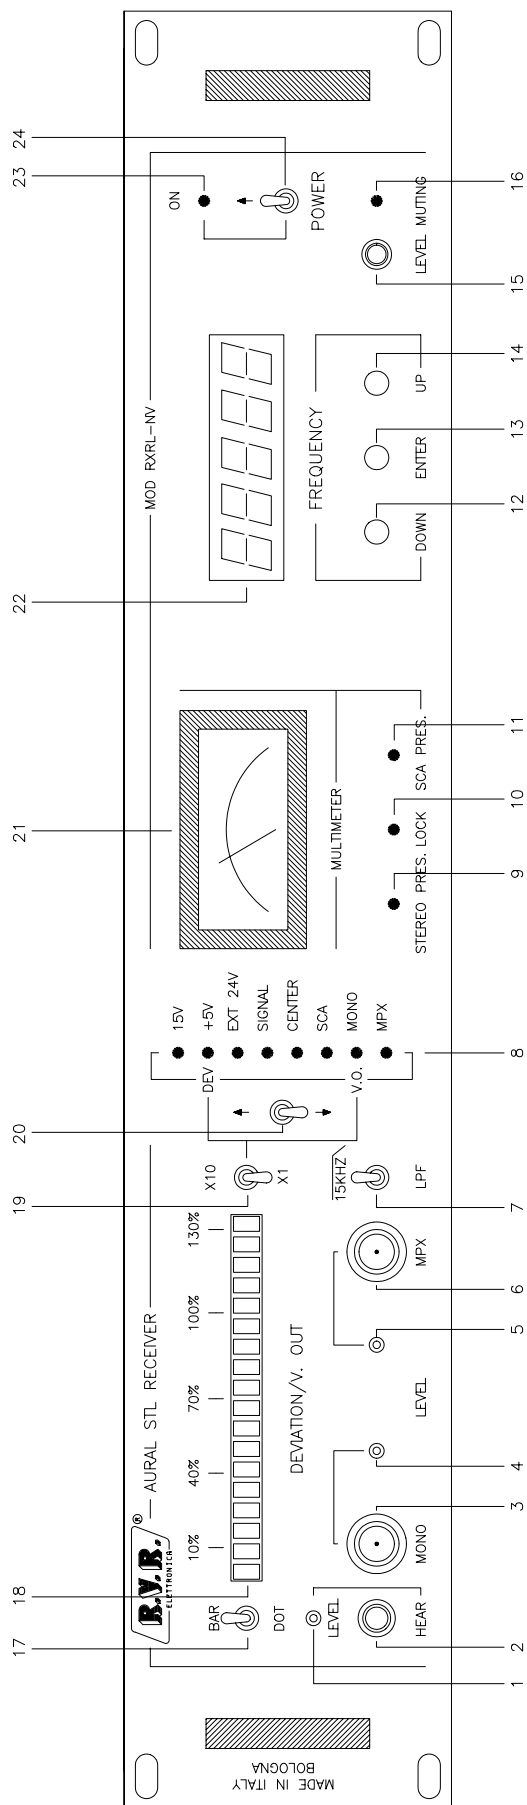

FIG. 1
The parameters are selected by a lever switch (20 Fig.1) and the selection is indicated by the legend of the green led (8 Fig.1).
This card is mounted on the right side of the front panel and allows adjustment of the receiver's muting threshold (= -83 dBm of default) and displays the muting status with a led (16 Fig.1).
(Fig.1)
- 3) Switch the power switch (24 Fig.1) to the OFF position.
- 5) Switch the power switch to the ON position and check that the green POWER ON led (23 Fig.1), and the green led corresponding to the parameter selection SIGNAL (8 Fig.1), are both lit.
After a few seconds the frequency display (22 Fig.1) will come on and display a number (eg. 760.00) corresponding to the last
The green LOCK led should switch on within 30 seconds indicating that the oscillator has locked to the operating frequency displayed. The display has five digits, 3 before the decimal point representing (from left to right) hundreds of MHz, tens of MHz and MHz; and 2 after the decimal point representing hundreds and tens of KHz. To change this number, use the UP (14 Fig.1) and DOWN (12 Fig.1) buttons to respectively increase it and decrease it.
Once the desired frequency has been found, press ENTER (13 Fig.1) to confirm and save it.
- 6) Connect an audio analyzer to the MONO (3 Fig.1) or MPX outputs (6 Fig.1).
Check that the analog meter (21 Fig.1) displays a reading of 1mV.
- 7) Select CENTER with the selector (20 Fig.1) and check that the
Set the modulation display gain (20 Fig.1) to 130% f.s.d.
Connect an audio analyzer to the MONO output (3 Fig.1).
Check that the bar-graph display (18 Fig.1) lights up to the first red led, indicating 100% deviation (equivalent to 75KHz).
9) Inject a signal with a level of -83dBm and adjust the MUTING trimmer R2 (15 Fig.1) until the red muting led switches on. The audio signal will be automatically disabled and the Modmeter bar-graph display will go out.